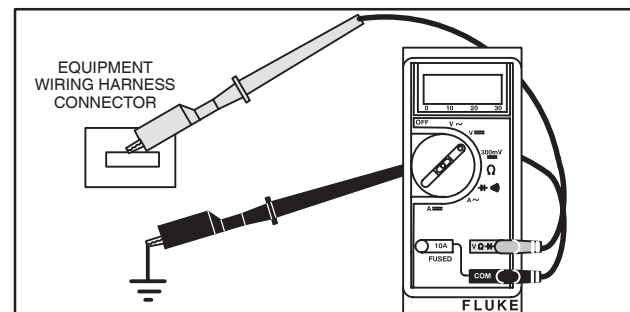

Fig. 22 – Testing Solenoid Wiring
3. Meter should display battery voltage, Fig. 22.